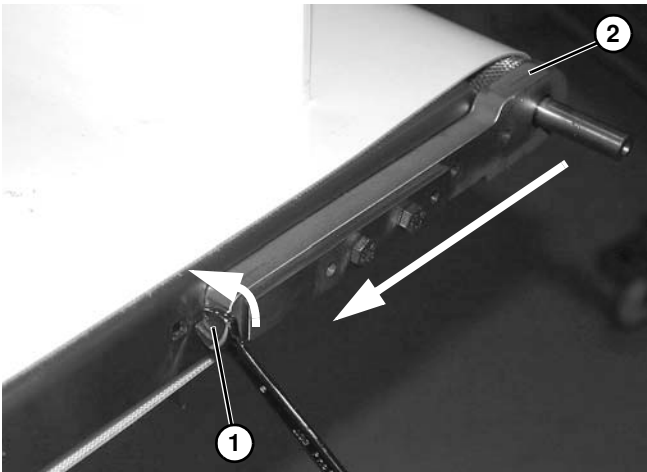

Figure 53
6. Rotate screw (**Figure 53, item 1**) counterclockwise to retract drive spindle assembly (**Figure 53, item 2**). Repeat on opposite side to approximately the same distance.